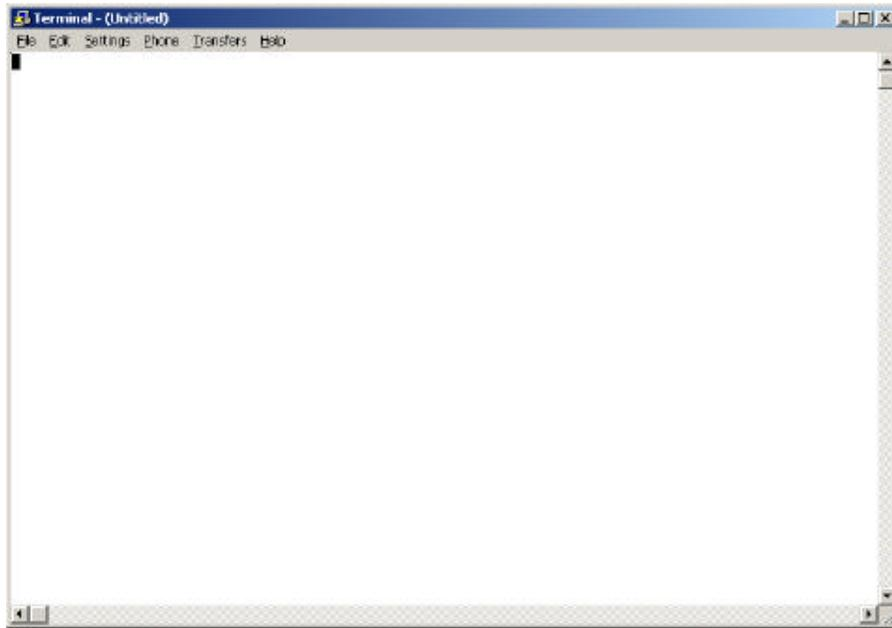

Figure 4.4.1 Terminal program
4. Run the TERMINAL.exe program (figure 4.4.1) and set the *Communications* in the **Settings** menu to those shown in figure 4.4.2.